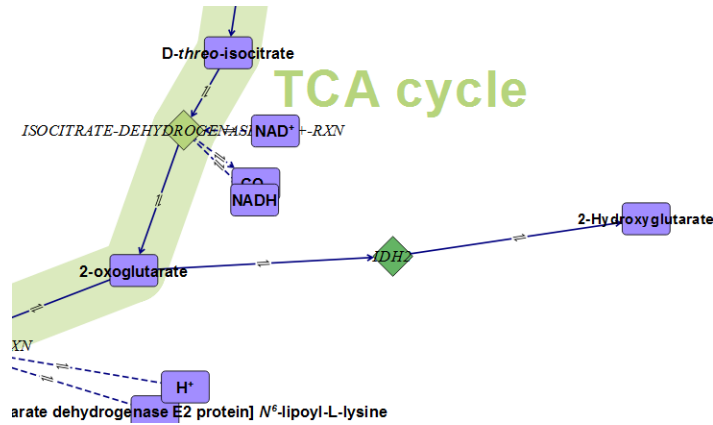

Figure 77 Drawing Area showing the inserted IDH2 and flux edges
- j Click **Select**  on the toolbar, or press Esc, to exit the process of inserting flux edges. Your network diagram should look similar to Figure 77 on page 82.